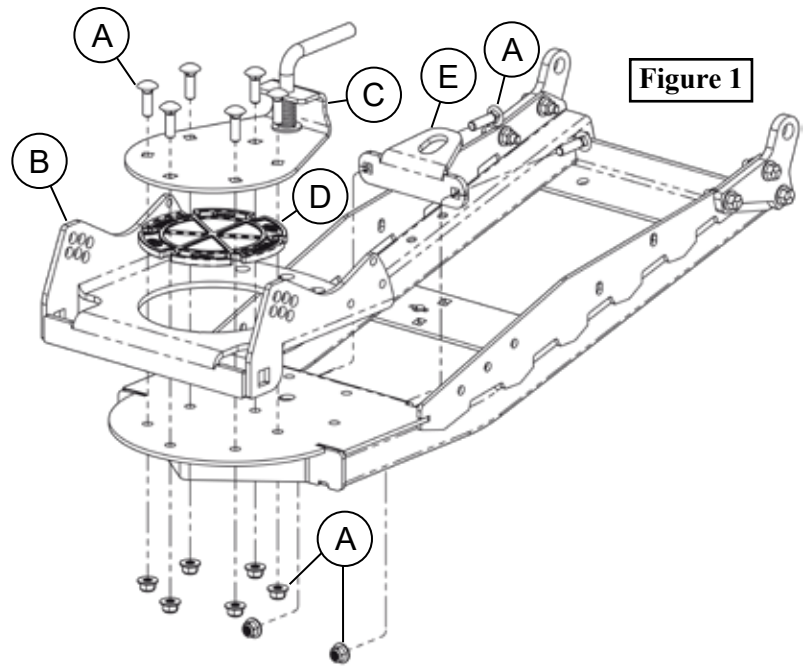

Figure 1
1. Unbolt hardware (A) and remove cradle (B), Lift latch assembly (C), pivot bushing (D), cable hook bracket (E) shown in **Figure 1**.
“Figure 1”